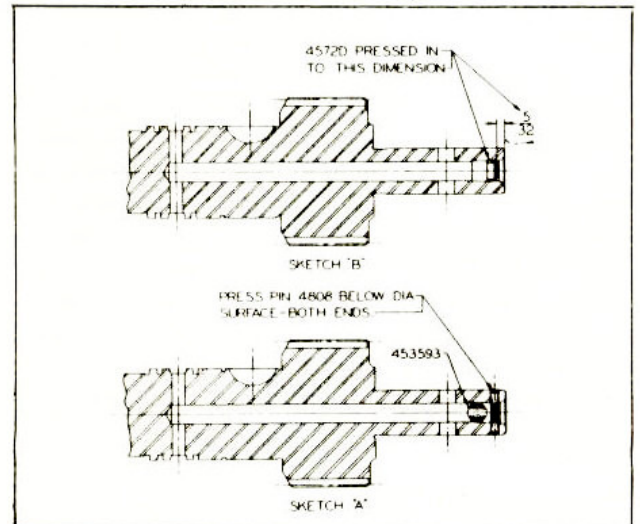

Fig. 99 Versions of Drive Gear and Plug Assemblies
17. The two methods of sealing the end of the drive gear are illustrated in (Fig. 99). Sketch "B" illustrates the method now used and sketch "A" the method formerly used. The two drive gear assemblies, varying only in the method of sealing the end of the shaft, are fully interchangeable.